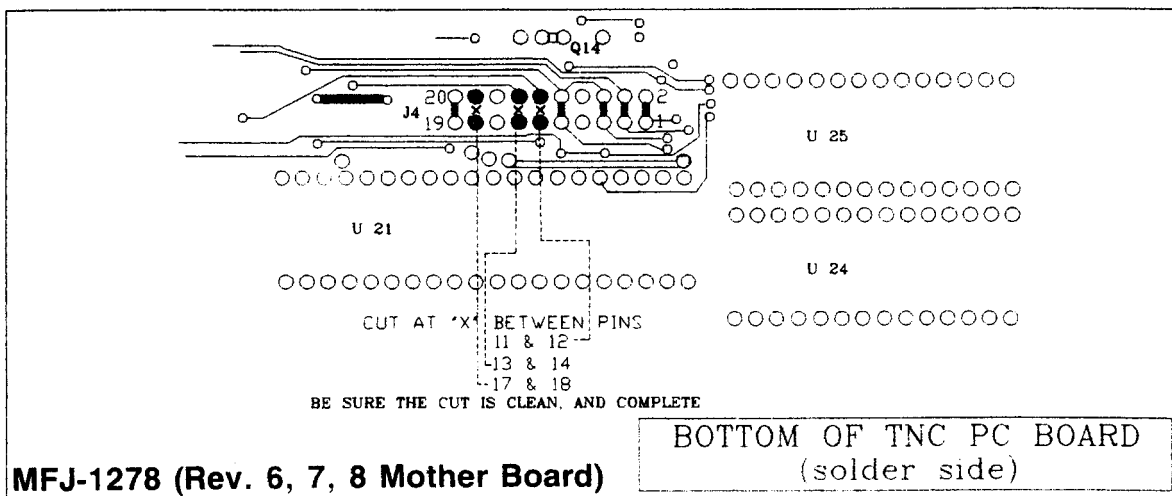

FIGURE 3
A: INSTALLATION OF THE 20 PIN HEADER: Refer to FIGURE 3
The drawing at FIGURE 3 will help you locate the header traces to cut. Use "solder-wick" or a solder vacuum device to remove any solder which may be covering any of the 20 pin header holes. Cut the traces between the three (3) points shown in the illustration.
For a more detailed drawing, see Figure 3.